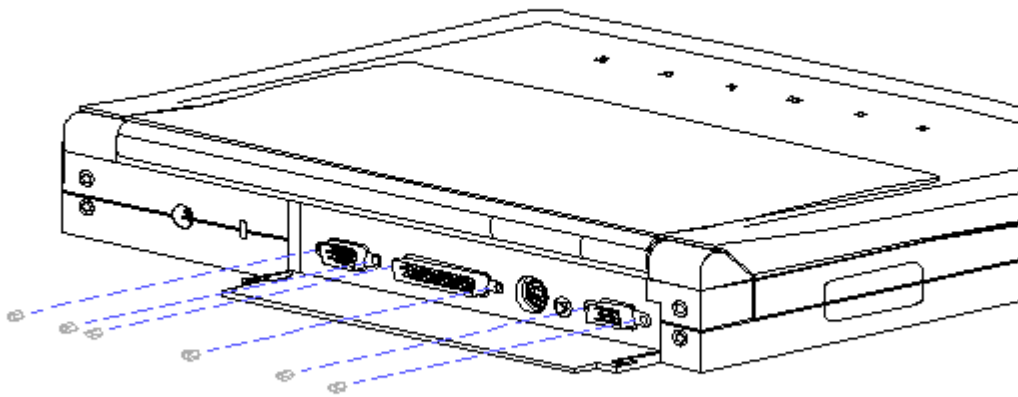

Figure 2-32. Removing the Six Screw Locks
7. Using a hex socket driver, remove the six screw locks from the rear of the computer (Figure 2-32).